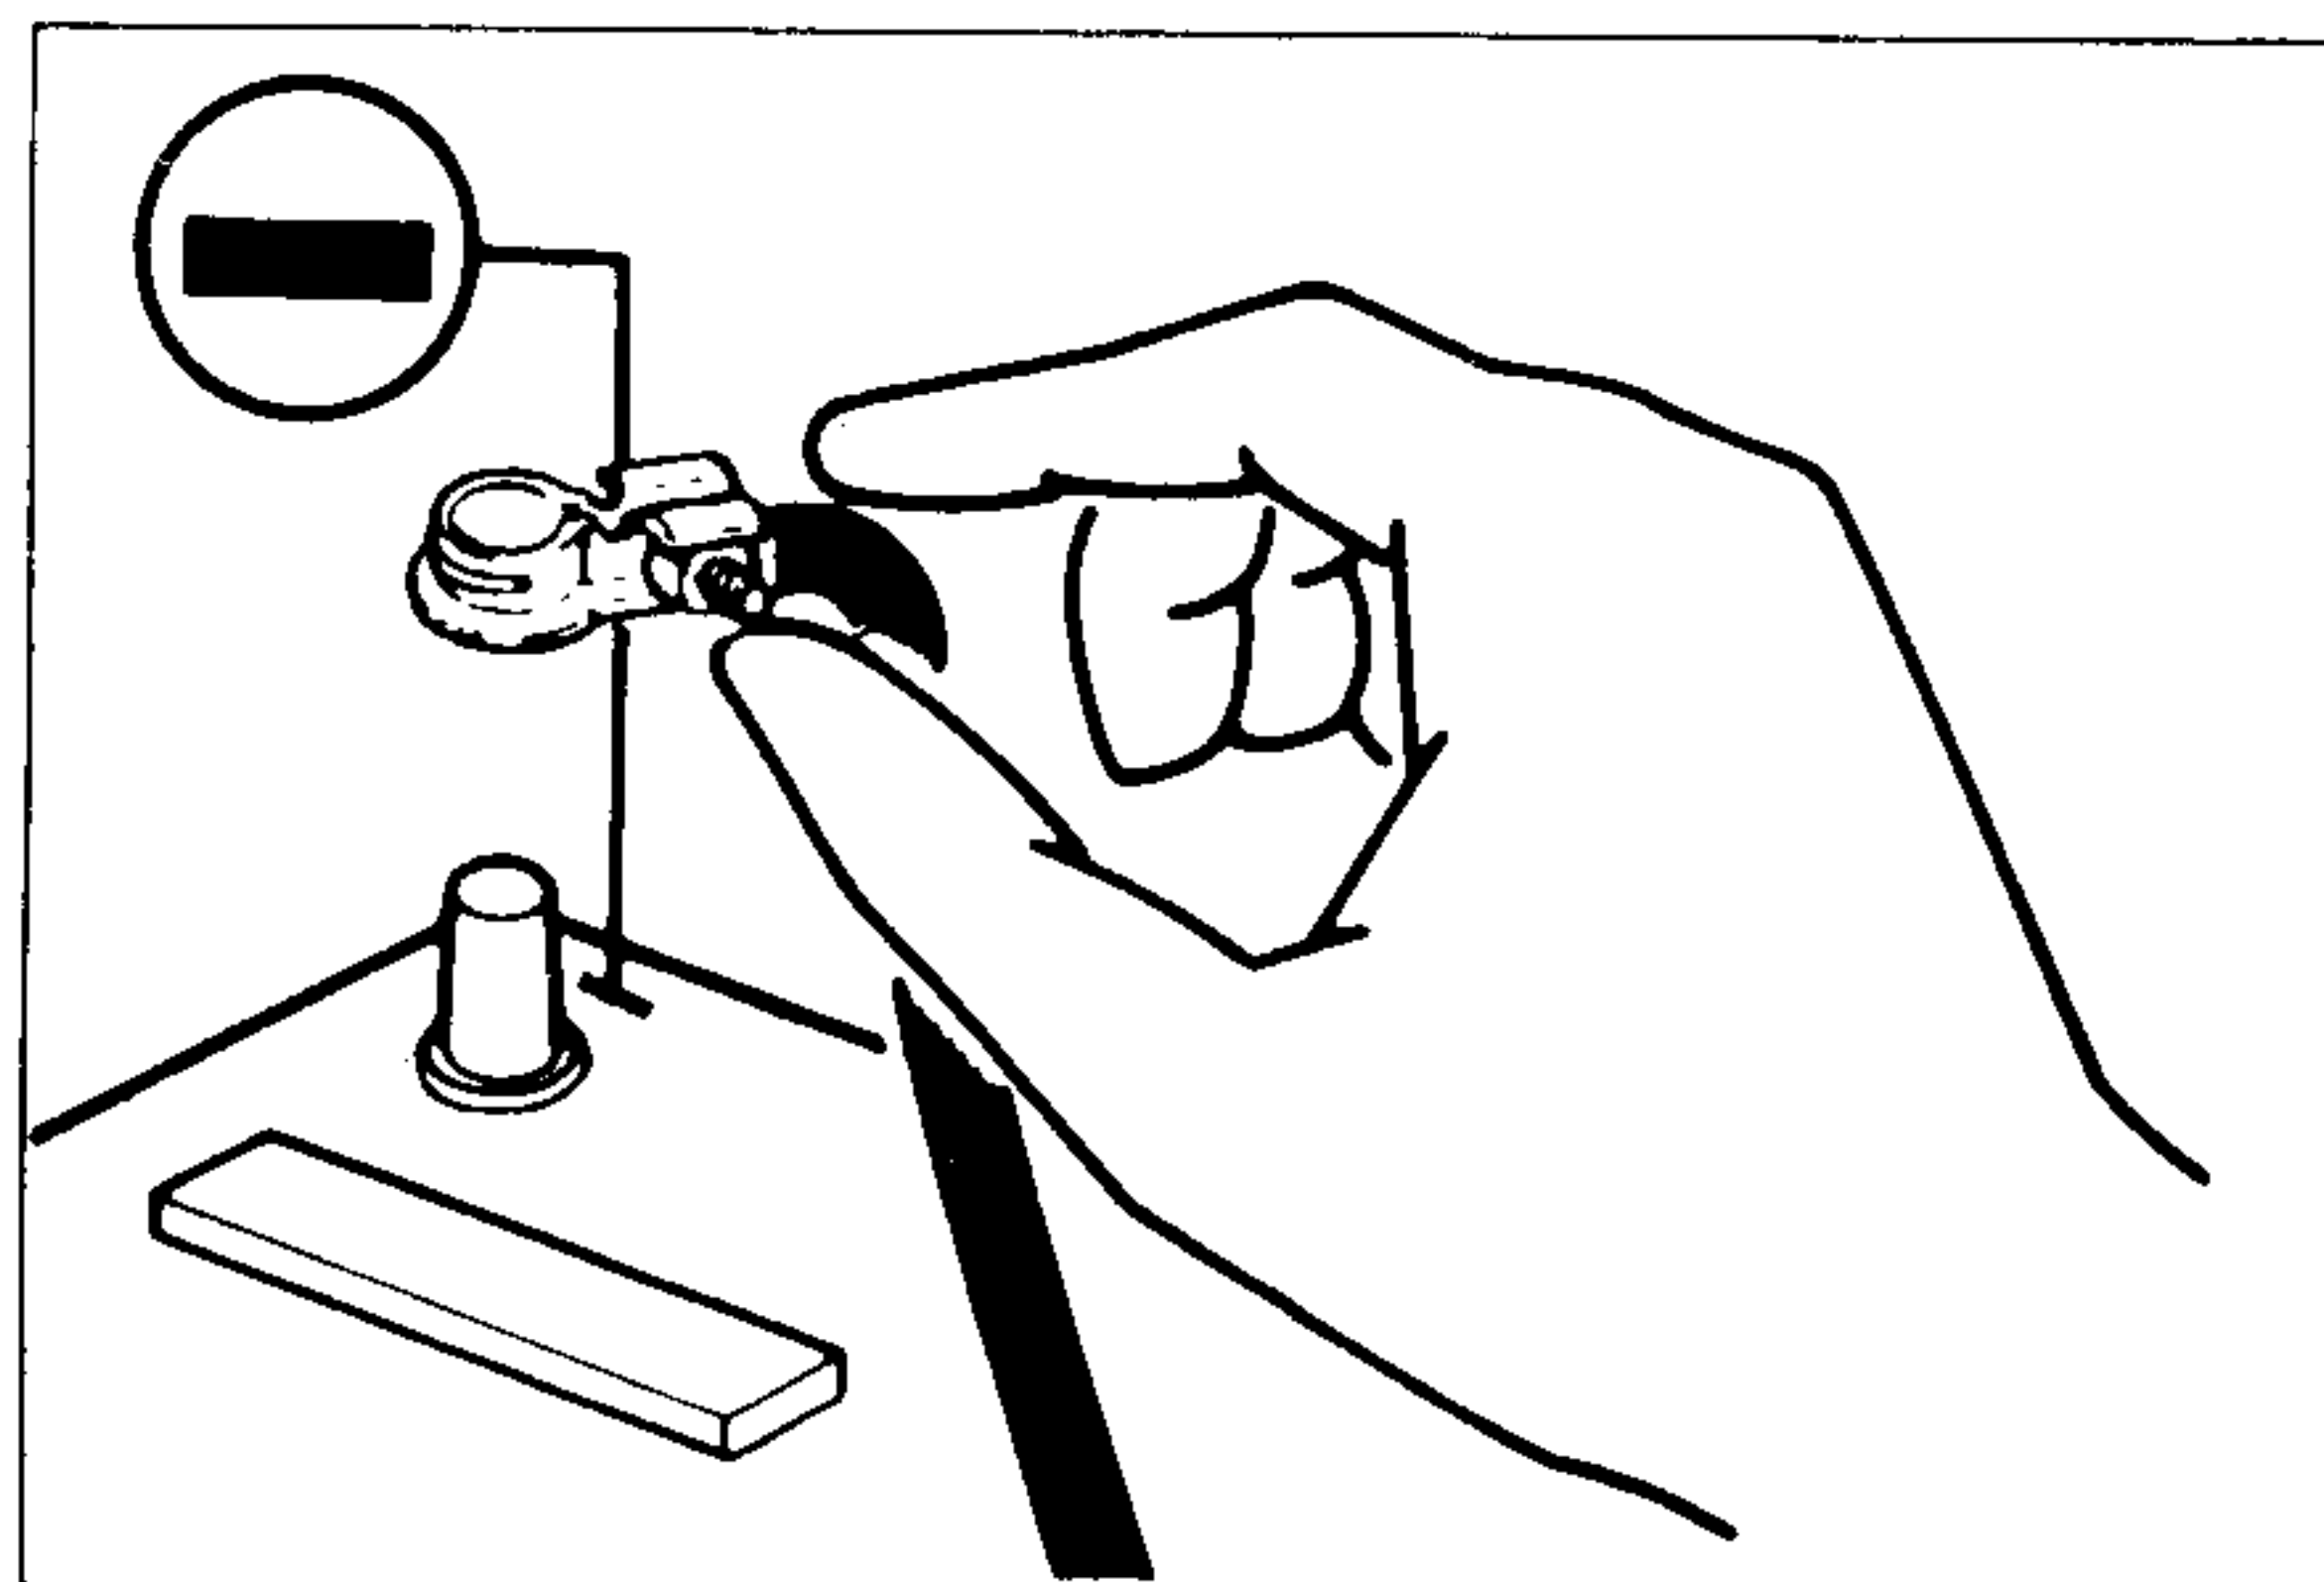

Figure 1
1. Disconnect the negative (-) battery terminal as shown in **FIGURE 1**.